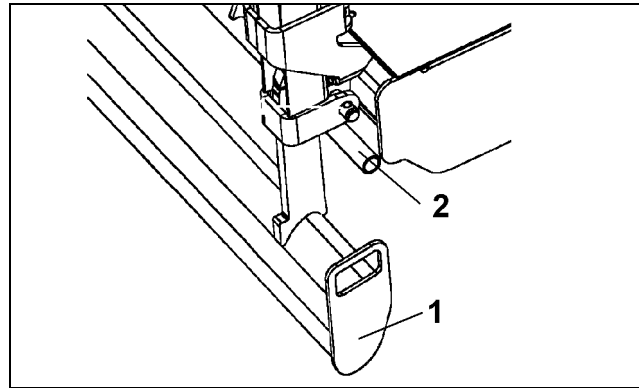

Fig. 12
- 1 Levelling bars (Fig. 12/1)